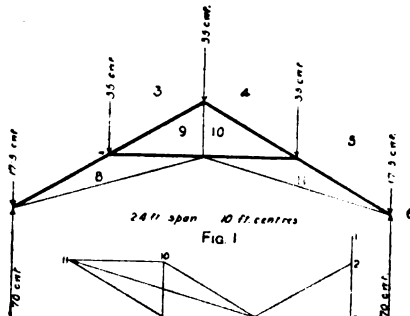
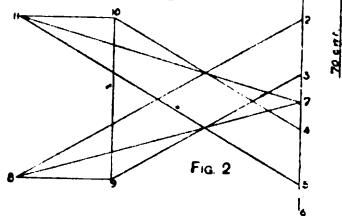
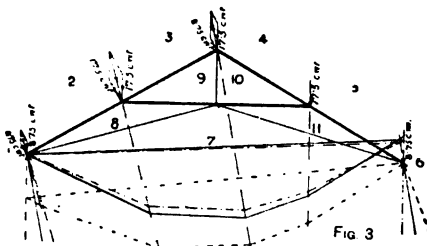

Fig. 1
Fig. 2
Fig. 3
and true on three edges, and get the bevel for the outside from Fig. 2. Then box out the top inner edges  $\frac{1}{2}$  in. each, and put in a board B (Fig. 2) crossways of the grain. This board is compassed in  $1\frac{1}{2}$  in. at the front (see C, Fig. 1). The rockers D are  $\frac{1}{2}$  in. thick,  $5\frac{1}{2}$  in. at the bottom, and  $\frac{1}{2}$  in. at the top, by 1 ft.  $1\frac{1}{2}$  in. deep in a square line, and are boxed out on the back edge E  $\frac{1}{2}$  in. each way to take the heel panel F (Fig. 2). The rockers are fixed at the bottom with No. 10 1-in. screws, and the top panel G is 1 in. thick by 1 ft.  $1\frac{1}{2}$  in. long on the bottom, and screwed on the rocker 1 in. down, the screws being put in from the inside of the rocker. The seat H (Fig. 2) is  $\frac{1}{2}$  in. thick, and is screwed under the side panel, and fitted between the rockers. Being included in the depth of the panels, it must be let in flush at the back ends. The back panel J is 10 in. deep in the centre by  $\frac{1}{2}$  in. thick, and should be boxed into the end of the side panel  $\frac{1}{2}$  in. on by  $\frac{1}{2}$  in. deep, and fixed with  $\frac{1}{2}$  in. brass panel pins. The mouldings round the body are 1 in. wide by  $\frac{1}{2}$  in. thick, mitred at the corners, and the front board is 7 in. deep, and in two parts, so as to be bent to the sweep, the grain being perpendicular. The shafts are 1 ft. 9 in. long by  $1\frac{1}{2}$  in. square, bent in one piece of wood from point to point, and are fixed by screws to the panel, being supported by an iron stay. The head K (Figs. 1 and 2) is portable, so as to have an open or a closed chaise. The side pieces L (Fig. 1) are 1 ft. 6 in. long on the top by 1 ft.  $1\frac{1}{2}$  in. on the bottom, and  $\frac{1}{2}$  in. thick, and can be framed together. The glass windows M are 11 in. deep by  $8\frac{1}{2}$  in. wide, and the moulding around them may be metal bead, with shanks soldered into the back. The corners being mitred together, the back panel should be boxed into the side panels, and fixed with  $\frac{1}{2}$  in. brass panel
**Stresses and Scantlings for Roof Truss.**—Fig. 1 of the accompanying illustrations shows the frame diagram of a roof which is a tied collar beam truss. Fig. 2 shows the stress diagram for vertical loading, which is the common method, the total load being taken at  $\frac{1}{2}$  cwt. per ft. sup. It is, however, more correct to take the wind as acting on one side only, as in Fig. 3, and then this gives three conditions of the truss—(1) fixed both sides, (2) fixed